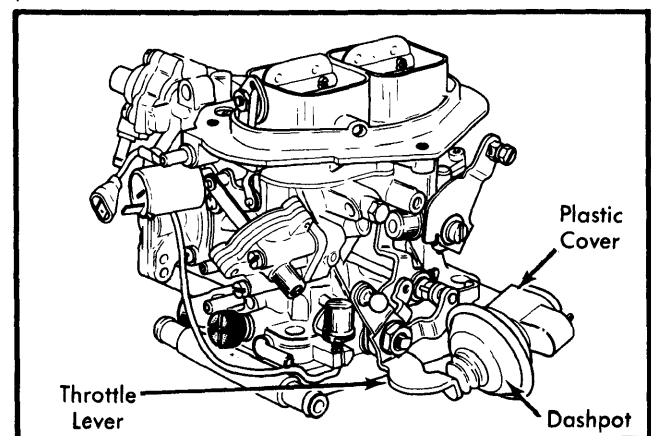

Fig. 6 Dashpot Adjustment (California Only)
2) Cut plastic cover off dashpot assembly to gain access to adjustment screw. See Fig. 6. Position dashpot so that it just contacts the throttle lever. Install new cover, and lock it in place by driving pin in dashpot bracket hole provided for locking purposes.